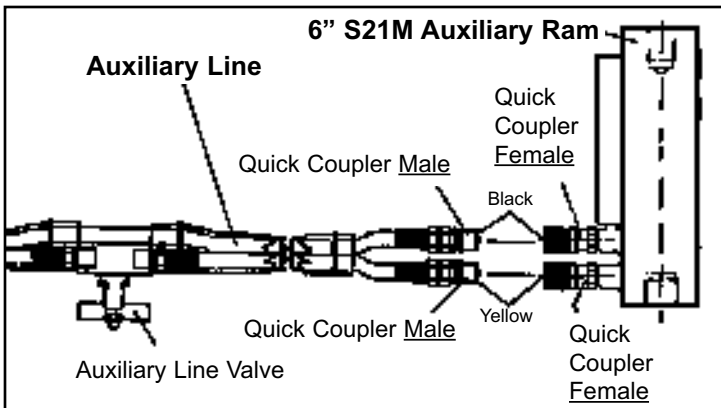

Figure 1
1. Attach auxiliary line to 6 inch S21M auxiliary ram making sure both couplers are tight. (See Figure 1.) Secure 'black' male and female couplers together and secure 'yellow' male and female couplers together.